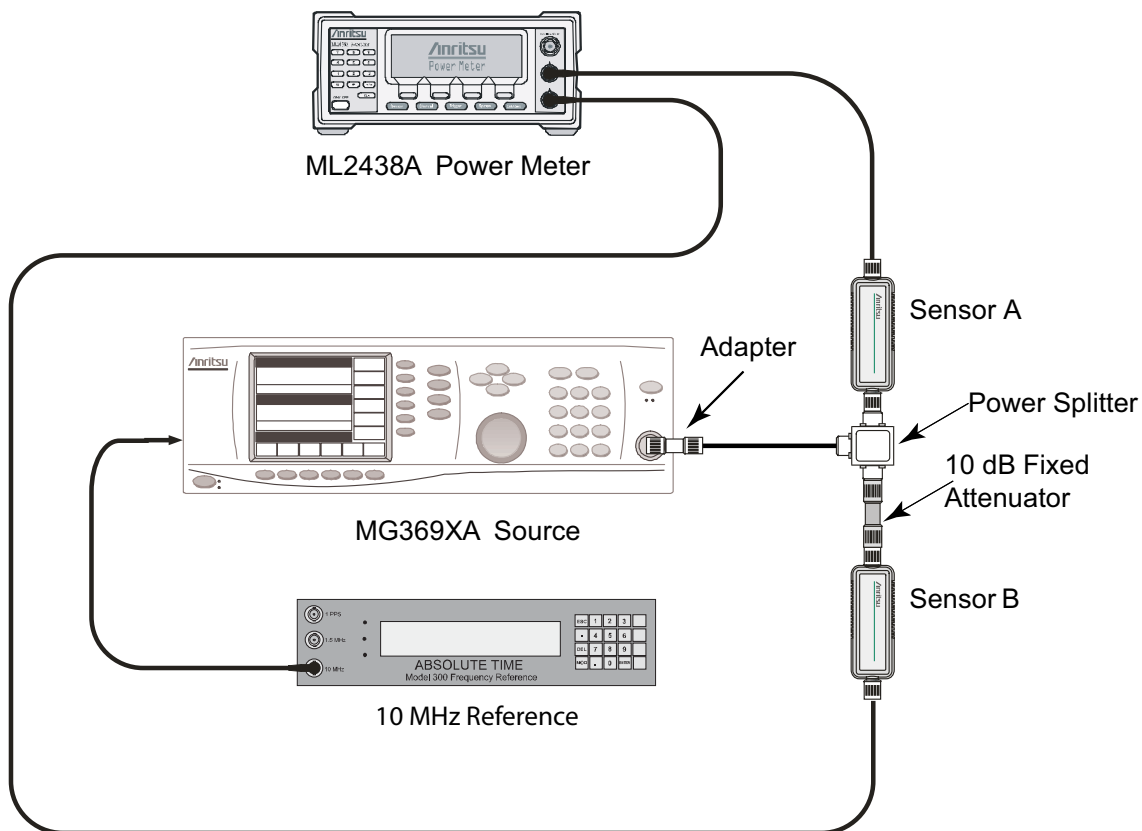

Figure 2-5. 50 MHz Amplitude Accuracy Verification Setup
3. Connect the model 1870A power splitter to the MG3692x output, and connect Sensor B to one of the power splitter outputs (Refer to Figure 2-5).
2. Connect the equipment as shown in Figure 2-5 on page 2-18.